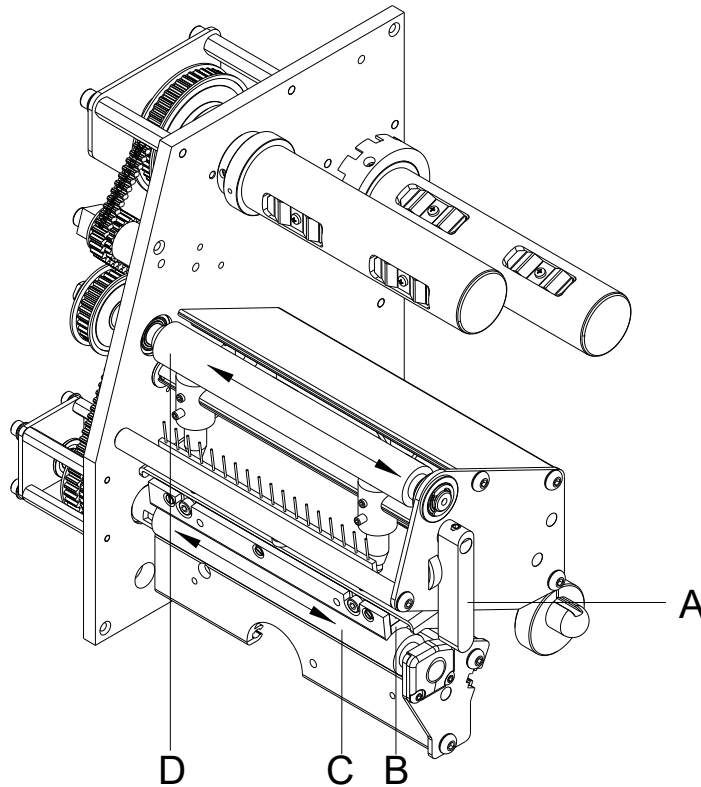

Figure 15
2. Turn the lever (A, Figure 15) counter clockwise to lift up the printhead (B, Figure 15).
5. Turn the roller (D, Figure 15) manually step by step to clean the complete roller (only possible when the printer is switched off, as otherwise the step motor is full of power and the roller is kept in its position).
7. To move the printhead (B, Figure 15) down, turn the pressure lever (A, Figure 15) in clockwise direction until it locks.
2. Turn the red lever (A, in Figure 15) counter clockwise to lift up the printhead.
7. To move the printhead down, turn the pressure lever (A, Figure 15) in clockwise direction until it locks.